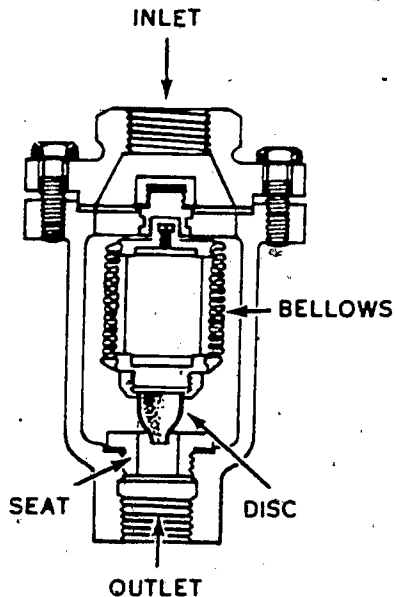

Figure 54. A typical automatic air vent.
5. **Radiator Air Vents.** There are two types of radiator air vents: automatic and manually operated. A typical automatic air vent is shown in figure 54. Air vents are installed to remove air from the radiators. This must be done because air will keep the radiator from heating properly.
6. The type of air vent shown in figure 54 consists of a hermetically sealed bellows, a valve